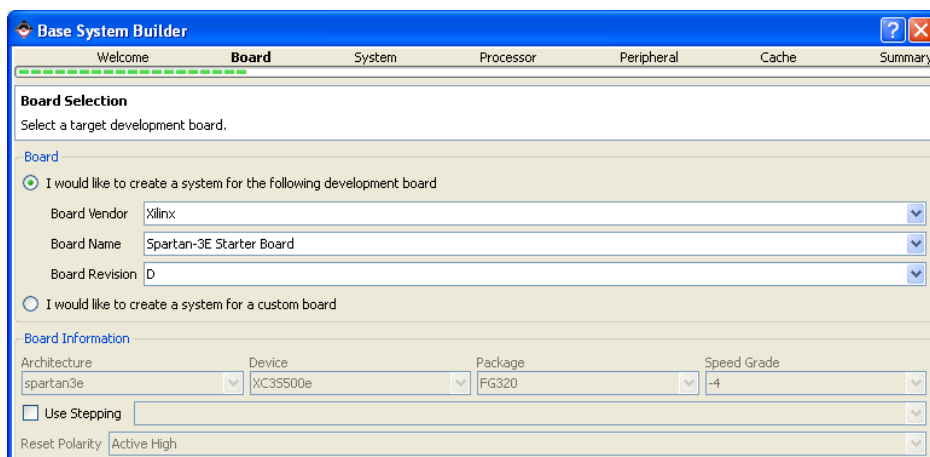

Figure 5. Board Selection Dialog Box
- 1-1-5.** In the **Board Selection** dialog box, specify the settings below (**Figure 5**) and click **Next** to continue.